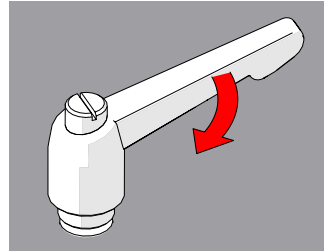

Fig. 64 - Tighten handle
3. Release the lever and utilize the new tightening position (Fig. 64).